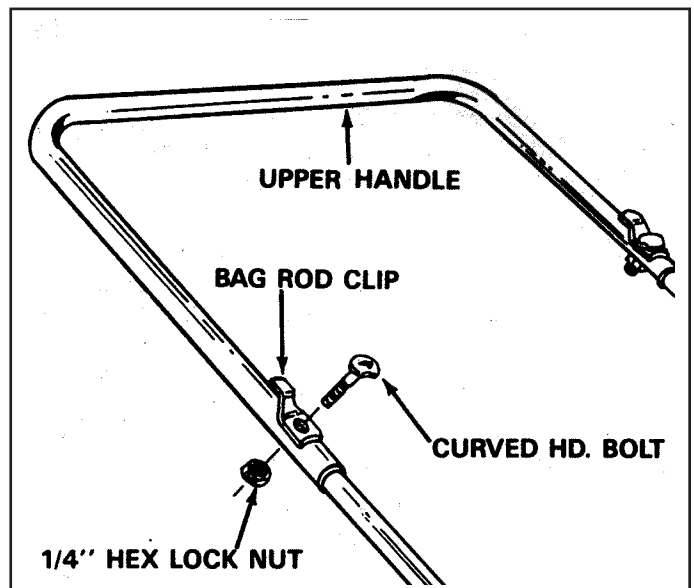

FIGURE 2
2. Assemble the Upper Handle Tube over the Handle Leg Stand Tubes. See figure 2. Align holes in handle and assemble the Bag Rod Clips to the handle as shown and fasten with curved head bolts and hex lock nuts.